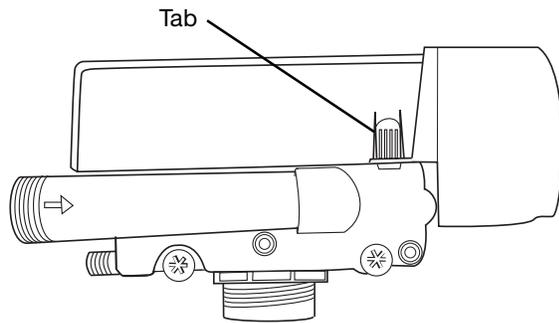

Figure 11
3. Remove the rear cover by depressing the two tabs provided on the cover, (Figure 11). Lift the front of the cover and remove to expose the valve body.